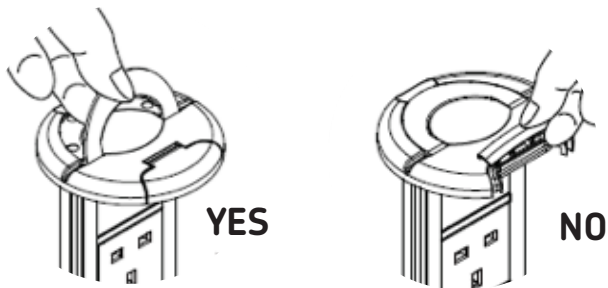

Fig. 4
- Always use the handle to raise/lower the product (see Fig 4)